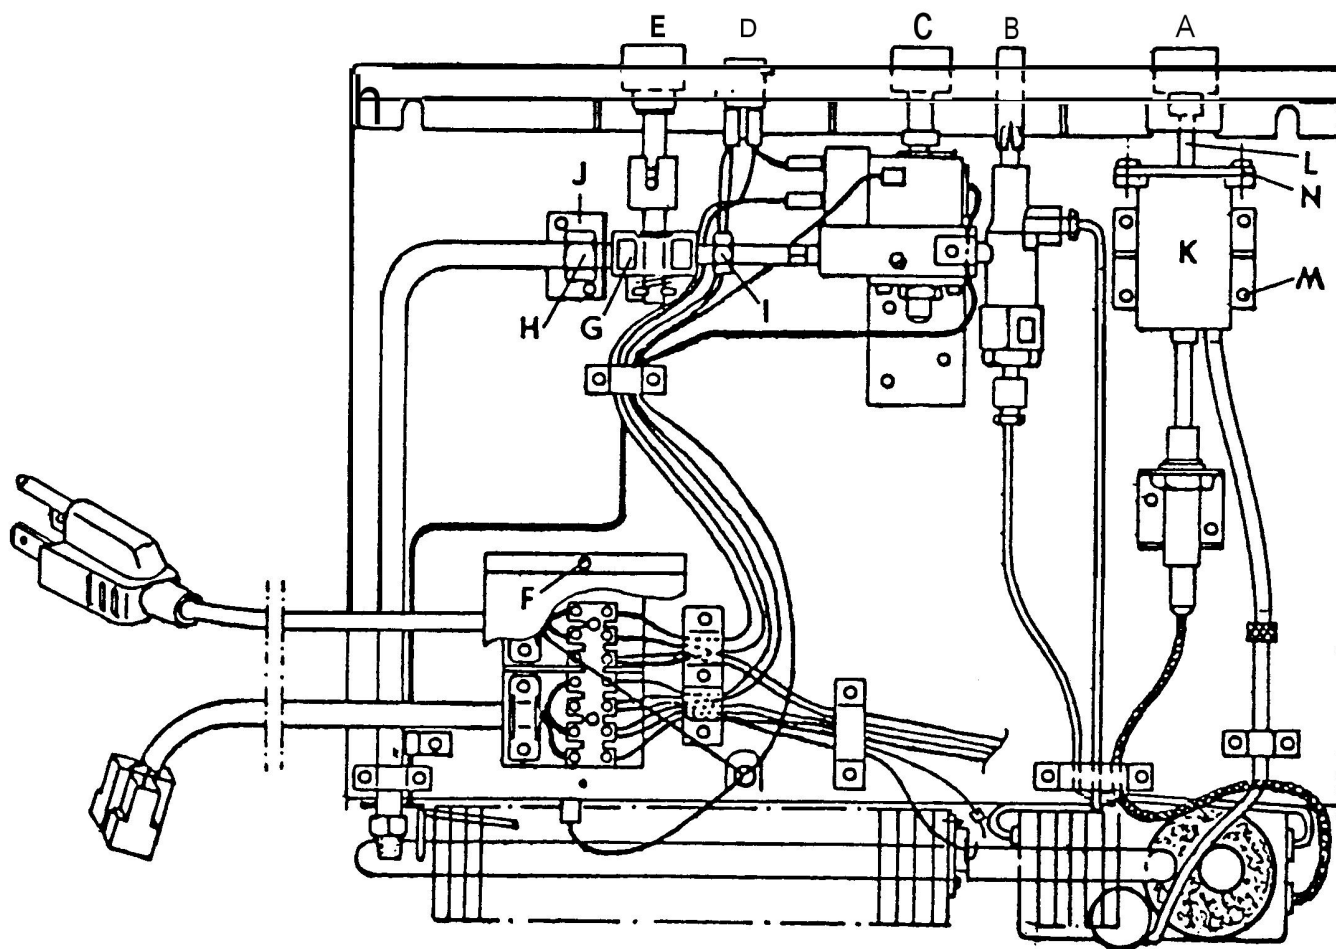

Fig. 9
1. Unscrew knob (A, Fig.9) of air pump (K, Fig.9) from the shaft (L, Fig.9).
2. Unscrew air pump (4 screws / M, Fig. 9).
3. Unscrew cover of air-pump (2 screws / N, Fig. 9).